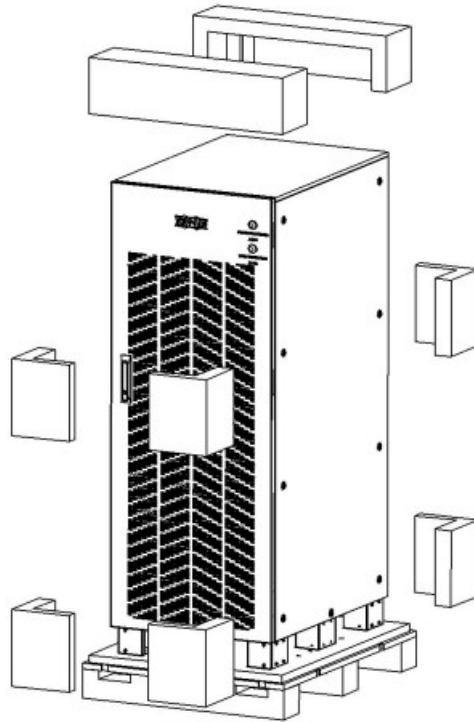

Figure 3-4
3. Remove the foam packing material and the beveled pallet (Figure 3-4).